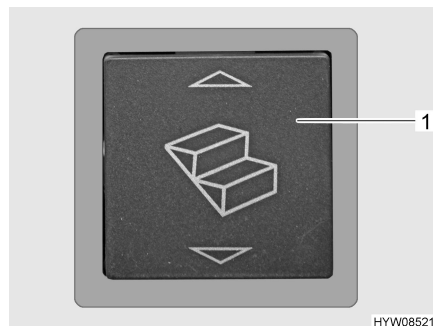

Fig. 1 Rocker button for entrance step (entrance area)
- Press the rocker button (Fig. 1,1) situated in the entrance area.